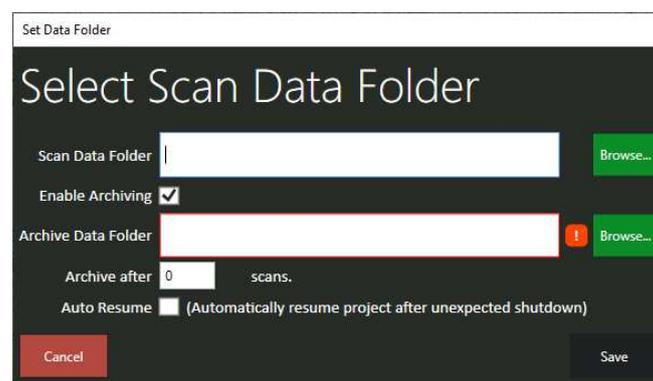

Figure 58. Automatic processing setup dialog.
2. This will open the *Set Data Folder* dialog (Figure 58).